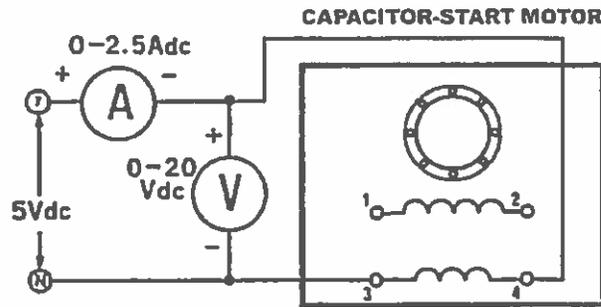

Figure 31-2.
8. Return the voltage to zero and turn off the power supply. Connect the circuit shown in Figure 31-2.